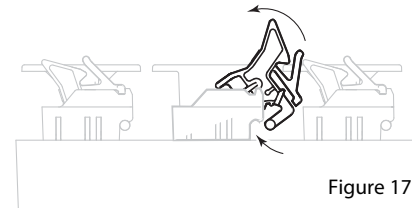

Figure 17
4. Insert new toggle as shown. (Figure 17)